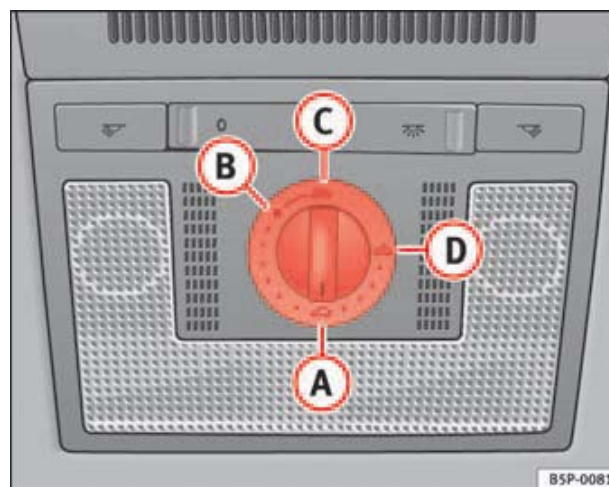

Fig. 69 Detail of the sunroof: rotary button for sliding/tilting sunroof ▶
- Turn the rotary button to position **A** ⇒ page 108, fig. 69 ⇒ .